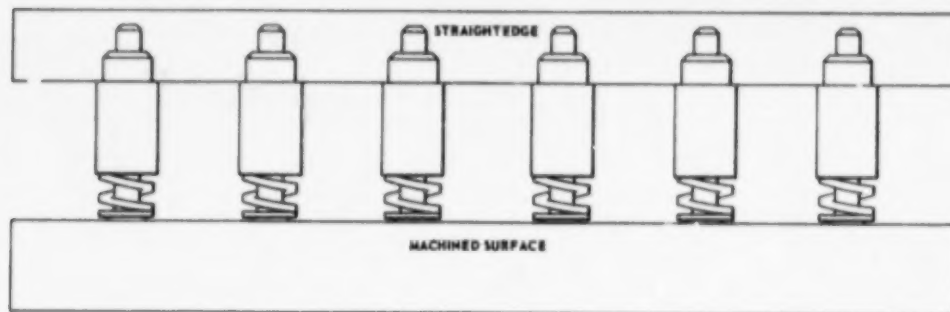

Figure 5-8. Checking for collapsed hydraulic plunger
(2) Mark plunger assemblies for their respective places in crankcase, and place them on a flat machined surface as shown in figure 5-8. Lay a straight edge across shoulder surface. Any plunger assembly that is more than 1/32 inch below straightedge is collapsed and must be rejected. When a collapsed tappet has been found, entire cylinder assembly must be replaced.
(3) Check for leaking ball check valve by dipping plunger in lubricating oil (item 2, table 1-8). Hold tappet cylinder between thumb and middle finger in a vertical position with one hand. Then place plunger in position so that plunger just enters cylinder. Depress plunger